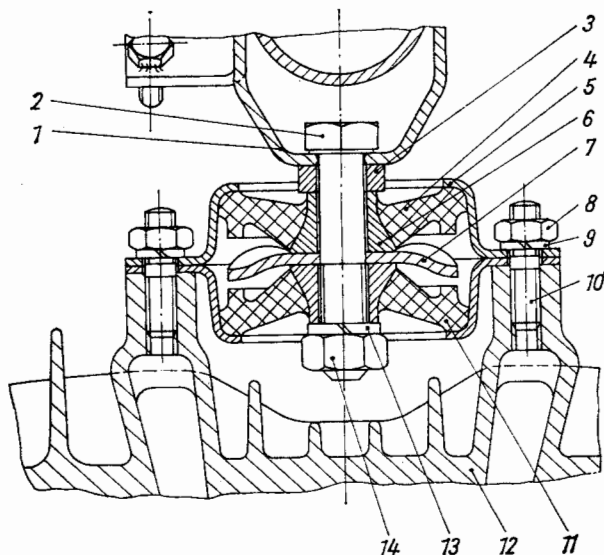

Fig. 93. Upper elastic engine mounting (sectional view)
5.3. Front (Upper) Engine Mounting (Fig. 93)
After loosening the fastening nut and turning the rubber elements, (Fig. 93) they can be replaced by new ones. When mounting, take care that the thrust washer is properly positioned (if grossly deflected, place it with the sag on top; if less deflected — indicated by a groove turned in — to the bottom).